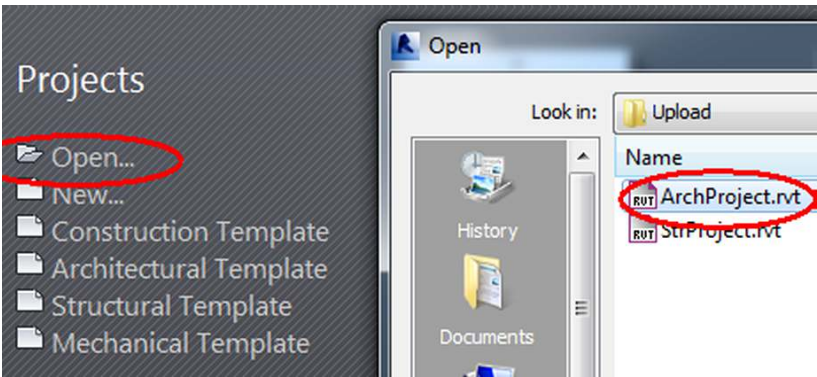

Fig. 1.6 – Opening a new project
1. Open Revit → Projects → Open (Fig. 1.6).